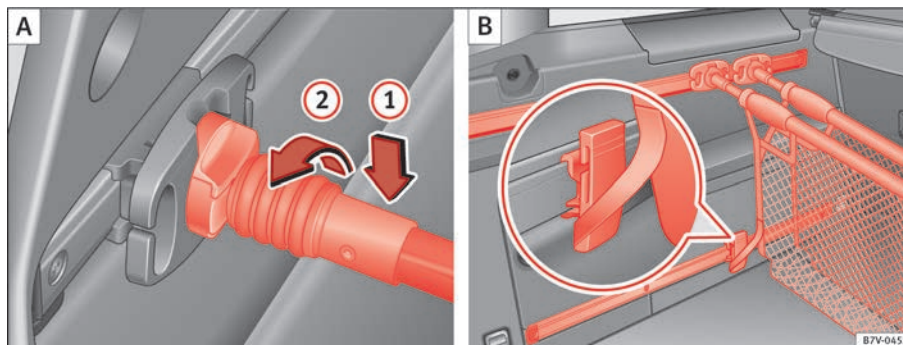

Fig. 97 Hook the baggage net (A) and use it as a bag (B).
Place the attachment rod on the baggage net support ⇒ fig. 97 ① and rotate 90° to the left ②. The red mark on the attachment rod should not be visible ⇒ ⚠.